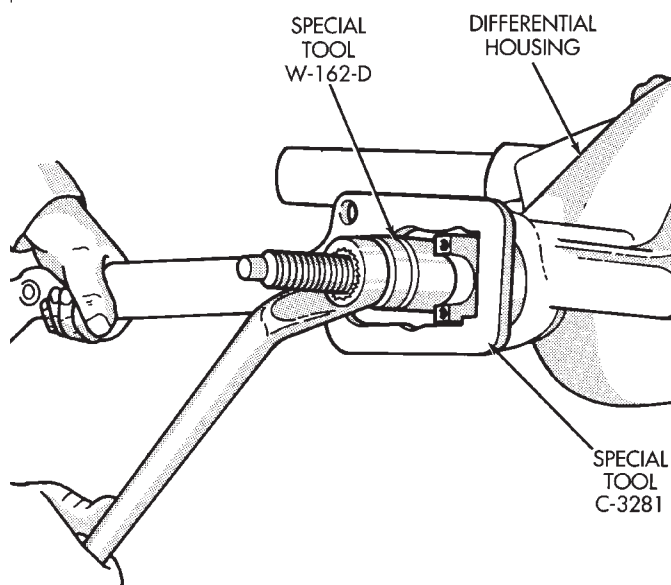

Fig. 56 Pinion Yoke Installation
(6) Install yoke with Installer W-162-D and Wrench C-3281 (Fig. 56).
(7) Install the yoke washer AND A NEW NUT on the pinion gear. **Tighten the nut only enough to remove the end play. Do not over-tighten it.**